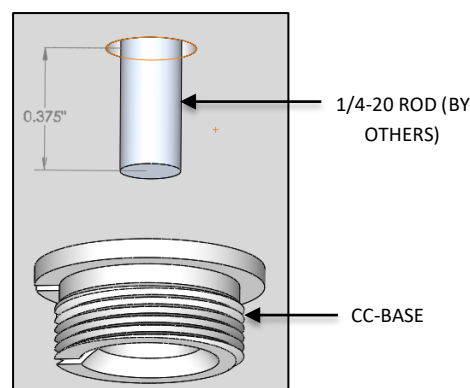

FIG. 24 - GRID CEILING INSTALLATION
12. Add a light thread locking compound to the 1/4-20 ROD (by others). Then thread CC-BASE to 1/4-20 ROD protruding through the ceiling material as shown in FIG. 24.